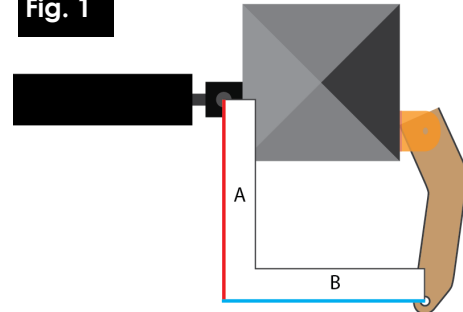

Fig. 2
3. Trim boomerang bracket template, then double check setback positioning. Using the template, mark the boomerang bracket for cutting. [See Fig. 2]